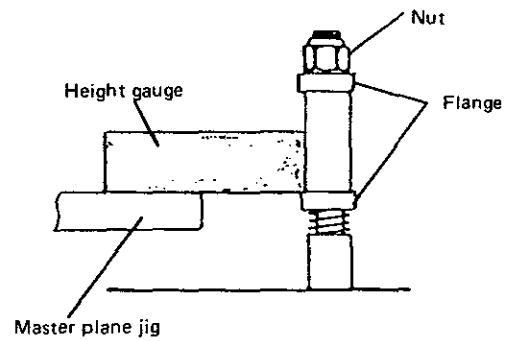
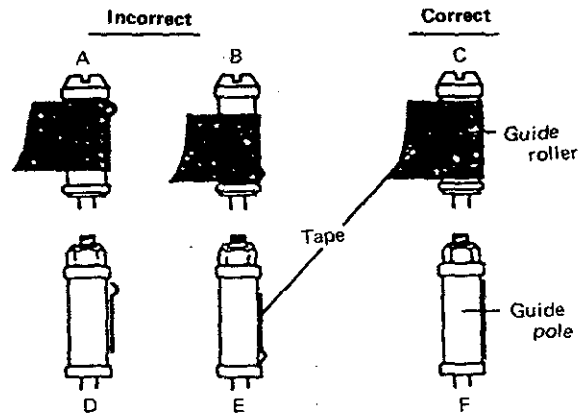

Fig. 17 Guide pole height adjustment
Fig. 21 Guide roller and guide pole
1. Set the master plane jig as shown in Fig. 17.
2. Set the height gauge on the master plane jig as shown in Fig. 17.
3. During Loading, Play and Unloading, observe the tape at the supply and take-up guide rollers and guide poles. Confirm absence of curling, wrinkling, etc., as shown in Fig. 21.
2. Use a metric nutdriver to turn the supply guide pole to align the upper flange of the guide pole with the upper edge of the tape as shown by F of Fig. 21. However, this adjustment must be performed so that at the same time, the upper flange remains within ± 0.5 mm of the height adjusting jig portion shown in Fig. 17.